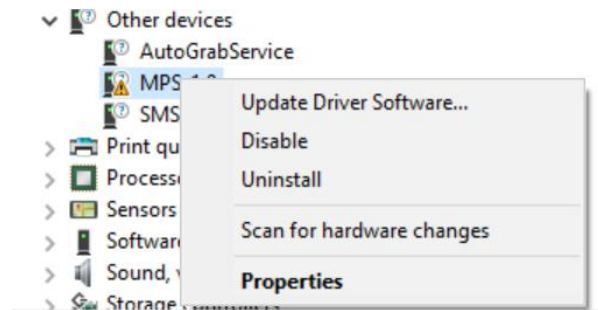

Figure 11: Updating the Driver Software
1. Open the Device Manager and select update driver software (see Figure 11).